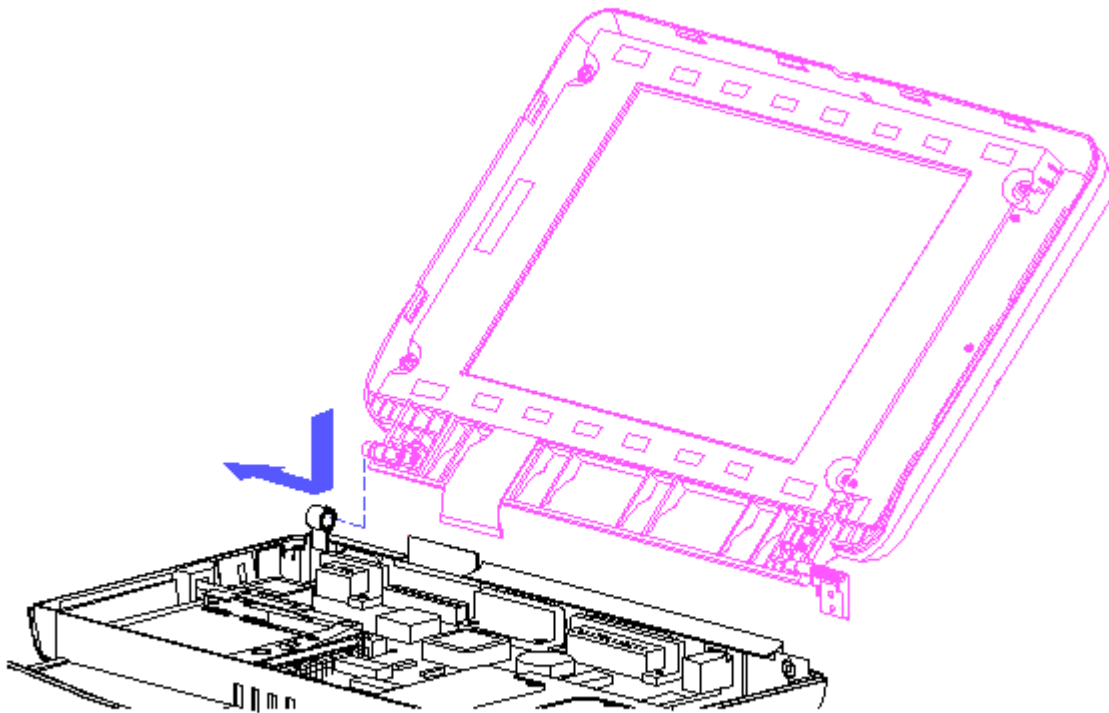

Figure 3-26. Aligning the Display Clutch with the Base Enclosure
1. Position the display assembly by aligning the display clutch and pin with the support loop and keyed bushing (Figure 3-26).